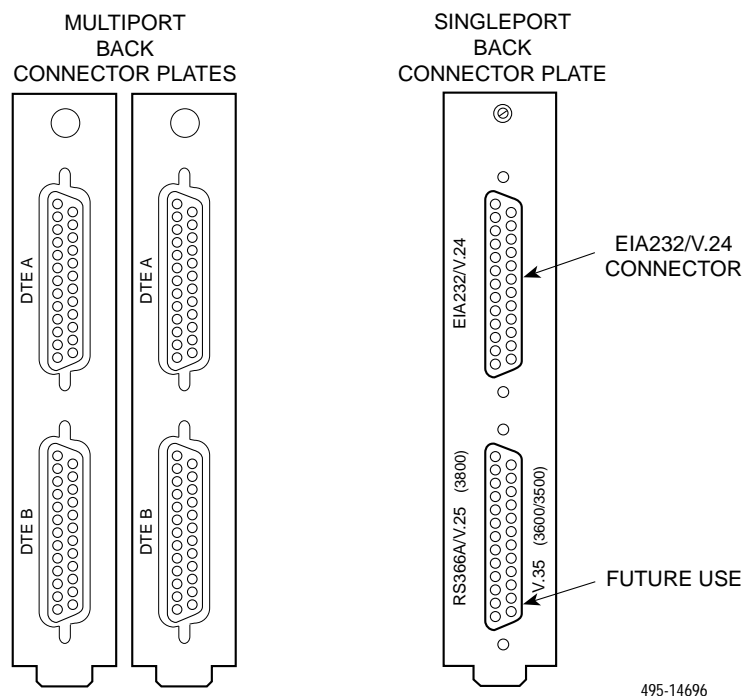

Figure 2-2. Modem's Back Connector Plates
1. At the back of the carrier, install the connector plates (Figure 2-2). Make sure the plate(s) use the same slot positions as that intended for the modem.